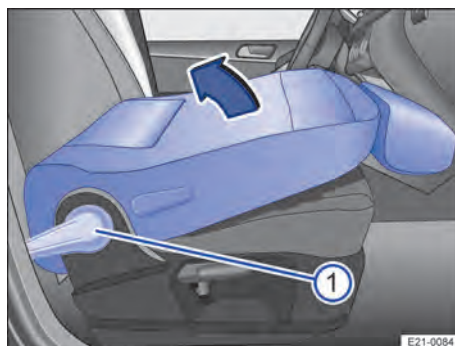

Fig. 67 Front passenger seat: folding the backrest backwards.
2. To fold it back, press the lever → Fig. 67 ① down to release the front passenger seat backrest again.
3. Fold back the front passenger seat backrest in the direction of the arrow → Fig. 67 until it reaches the upright position.